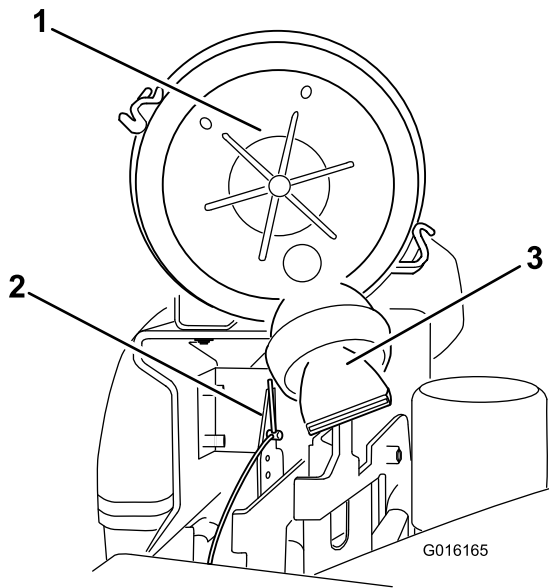

Figure 46
4. Position the air-cleaner cover, so that the breather valve does not interfere with the throttle mechanism (Figure 46).
5. Secure the cover with the latches (Figure 46).